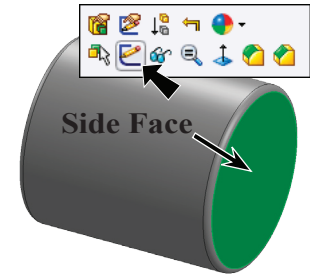

Fig. 7
click OK , **Fig. 7**.
Step 1. Click the **side face** and click **Sketch**  on the Content menu, **Fig. 7**.